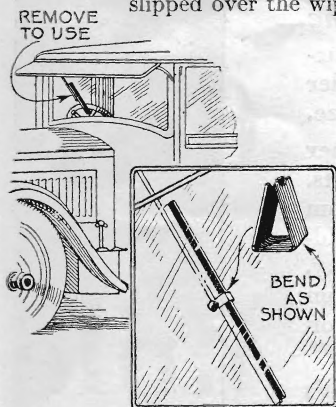

Fig. 1. Small metal guard stops warping of rubber windshield wiper.
**T**HE average windshield wiper goes bad long before it is worn out. Constant contact with the surface of the glass puts a kink in the rubber edge so that it will not bend back and forth to clean the glass as it should. Fig. 1, below, shows how to avoid this deterioration.